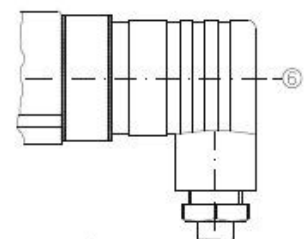

Fig. 10
- Plug the cable socket (pos. 2) into the appliance plug (pos. 3) and tighten the central screw (pos. 6) (Fig. 10).